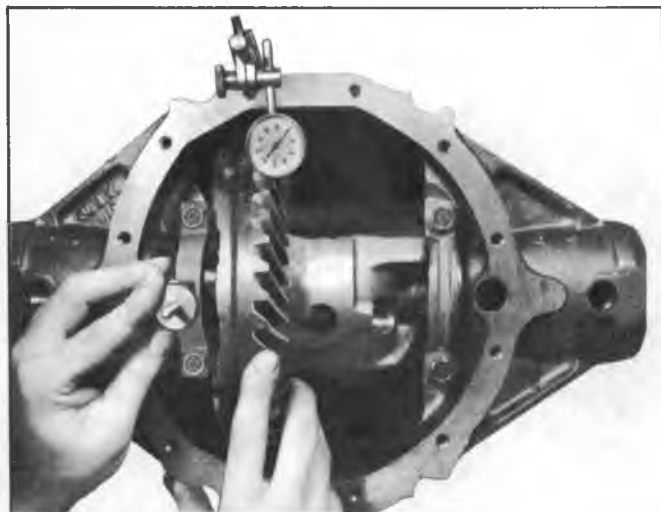

Fig. 21B—Installing Gauging Tool
4. With the ring gear tight against the pinion gear (.000" to .001" backlash) insert gauging Tool J-22779 between the left bearing cup and carrier housing as shown in Figure 21B.